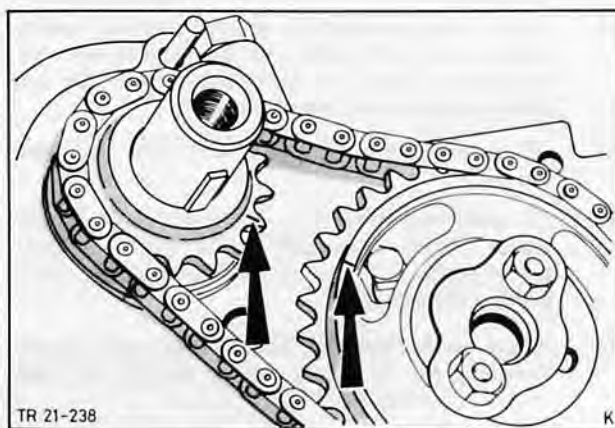

Fig. 57. Sprocket markings
42. Fit camshaft gear together with timing chain, ensuring markings on gears align, Fig. 57. Torque bolts as specified in Technical Data and lock.